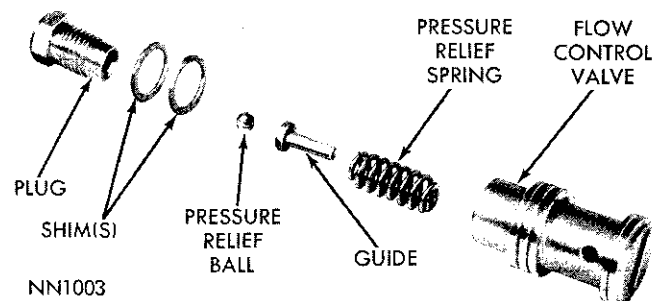

Fig. 19—Flow Control Valve (.94 Pump)
(1) Insert spring, guide and pressure relief ball in end of flow control valve (Fig. 19).
(2) Install hex head plug using the same number of shims as were removed. **Altering shim thickness will change relief pressure.**
(3) Install hex head plug and tighten to 50 inch-pounds.
(4) Insert flow valve spring and valve in bore. Install new "O" ring on pressure hose fitting and lubricate with power steering fluid.
(5) Thread fitting into pump body and tighten to 20 foot-pounds.